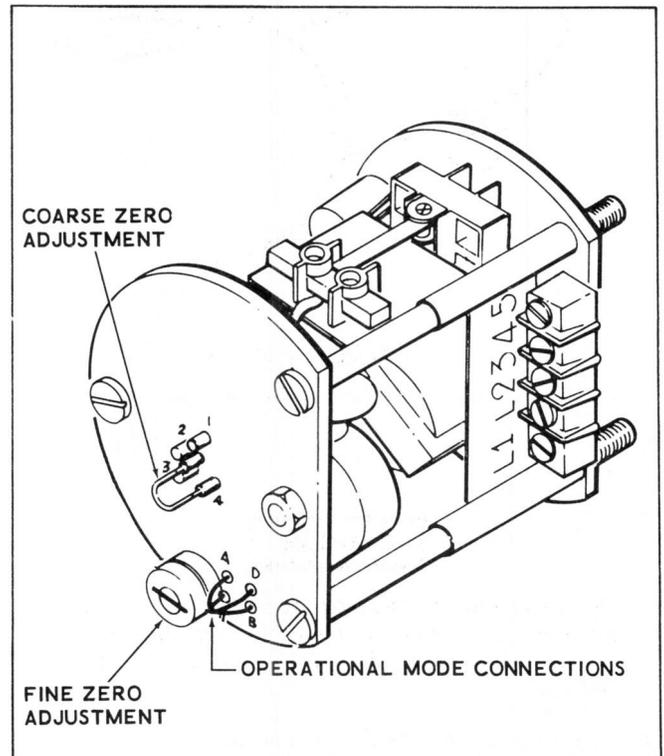

Figure 3-60. Adjusting Level Control System
(1) Open inspection cover in hopper cover assembly. Operate filler in EMPTY position until product in hopper has decreased to a point where replenishment is desired (approximately 1/4 to 1/2 of the probe diameter).
(2) Starting with coarse zero switch (Figure 3-60) in position 4, rotate fine zero adjust slowly in a clockwise direction until relay just becomes deenergized. If relay does not become deenergized after full rotation of fine zero adjust, position coarse zero to next lower (No. 3) position and repeat fine zero adjust procedure.
(3) When fine zero has been rotated slowly clockwise until relay is deenergized, rotate fine zero adjust counterclockwise slowly until relay becomes deenergized. Unit is now ready for low level fail-safe operation and control.